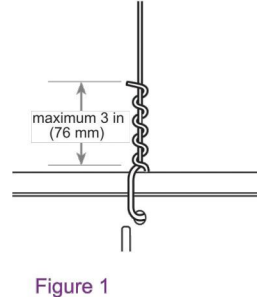

Figure 1
- All main beams are to be Heavy Duty (HD). *Source: ASTM E580 Section 5.1.1*
- All wire ties are to be three tight turns around themselves within three inches. Twelve-gauge hanger wire spaced 4 ft on center (Figure 1). *Source: ASTM C636 Section 2.3.4*